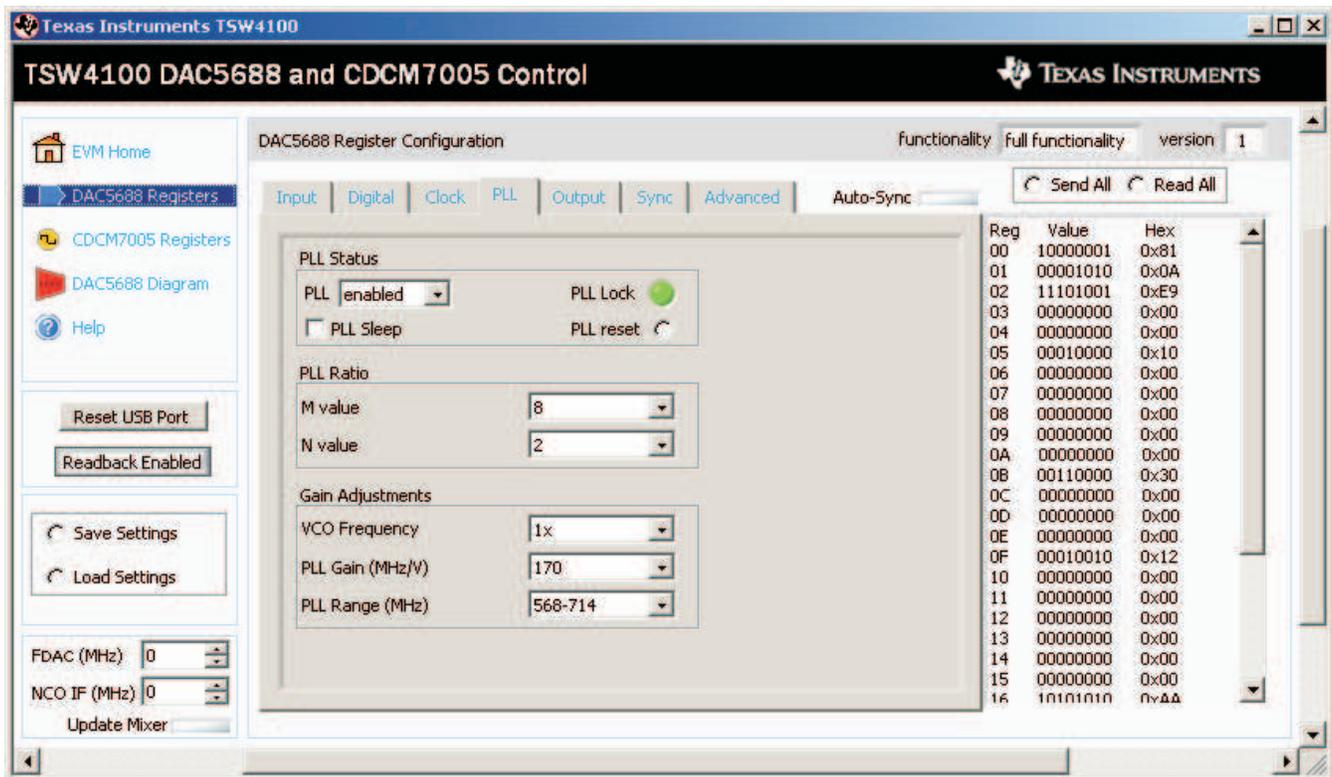

Figure 16. DAC5688 Interface
Navigate to the directory (**C:\Program Files\Texas Instruments\TSW4100GUI\CDCandDACregisters**) and select the file **TSW4100_DAC_CDC_example_1.txt**. The GUI loads both the DAC5688 and CDCM7005 with the settings contained in this file every time the *Load Settings* function is used. After the DAC5688 is configured, the user must make sure the internal PLL is locked. To verify this, click on the *DAC5688 Registers* button in the top, left-hand corner of the GUI. Click on the *PLL* tab. The GUI shall now look as shown in Figure 16. If the PLL Lock indicator is **Green**, the DAC5688 has been loaded properly and is ready for operation. If the indicator is **Red**, indicating the PLL is not locked, press the DAC5688 reset switch SW5, then click on the *Auto-Sync* button on the top right side of the GUI. If PLL Lock indicator still does not turn **Green**, press the DAC Reset button SW5 on the TSW4100 and reload the DAC and CDC settings. The PLL Lock Indicator must be **Green** for the DAC5688 to be working properly
5. Click on the *PLL* tab. The GUI display shall now look as shown in Figure 16. In this window, the user can change the PLL mode, view the PLL status, change the PLL Ratios and PLL Gain settings. After the DAC5688 and CDCM7005 have been configured, make sure that the PLL Lock indicator on the GUI turns from **Red** to **Green**. If this does not work, click on the *Auto-Sync* button on the top right side of the GUI. If PLL Lock indicator still does not turn **Green**, press the DAC Reset button SW5 on the TSW4100 and reload the DAC and CDC settings. The PLL Lock Indicator must be **Green** for the DAC5688 to be working properly.